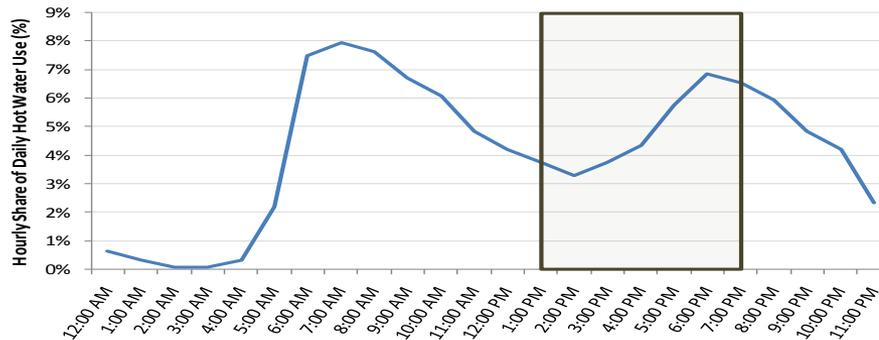

Figure 1. Daily Hot Water Use Profile¹
Figure 1 is the hourly hot water usage profile (gal/hr) for a residential home. This profile was used to develop the resultant peak kW and coincidence factor (CF) for this measure.